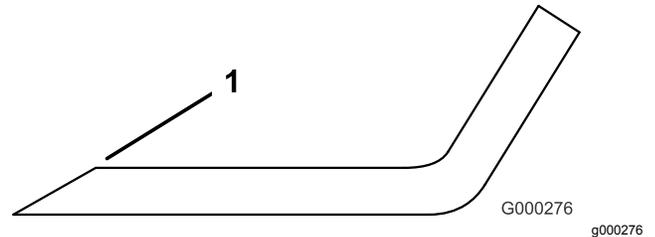

Figure 111
1. Use a file to sharpen the cutting edge at both ends of the blade (Figure 111).
Note: If the blade is not balanced, file some metal off the end of the sail area only (Figure 111).